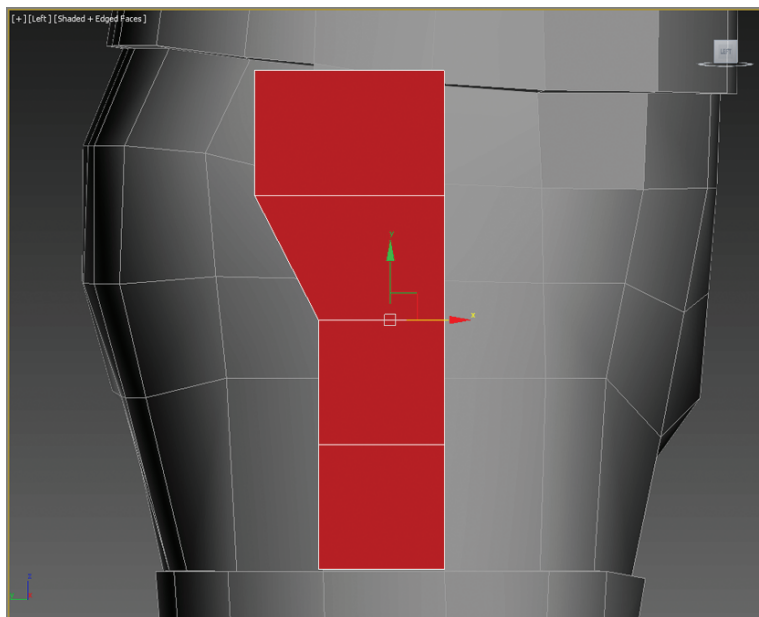

FIGURE 8.18 Shape the editable poly into a holster shape.
3. Convert the plane to an editable poly (Graphite Modeling Tools tab > Polygon Modeling panel > Convert to Poly), and then in Vertex mode, shape it as shown in Figure 8.18.